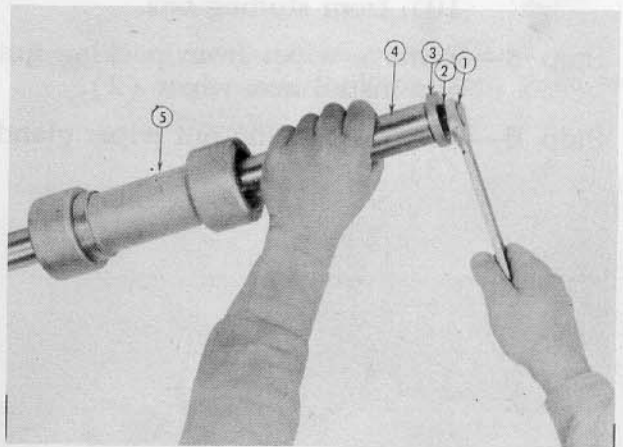

Fig. 9
Step 3—Remove stud (1—Fig. 9), lock washer (2), and stop (3) from end of shaft (4) and slide stuffing box assembly (5) off cylinder end of shaft.